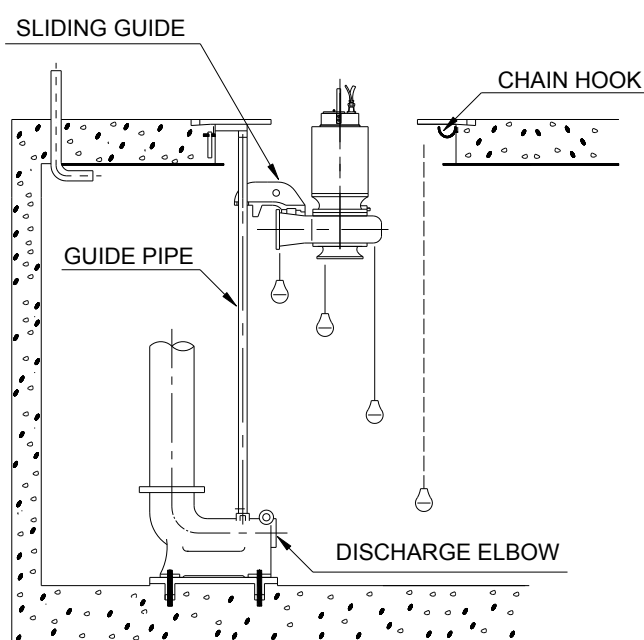

Fig. 12
3.7 Pump Installation (Fig. 12)